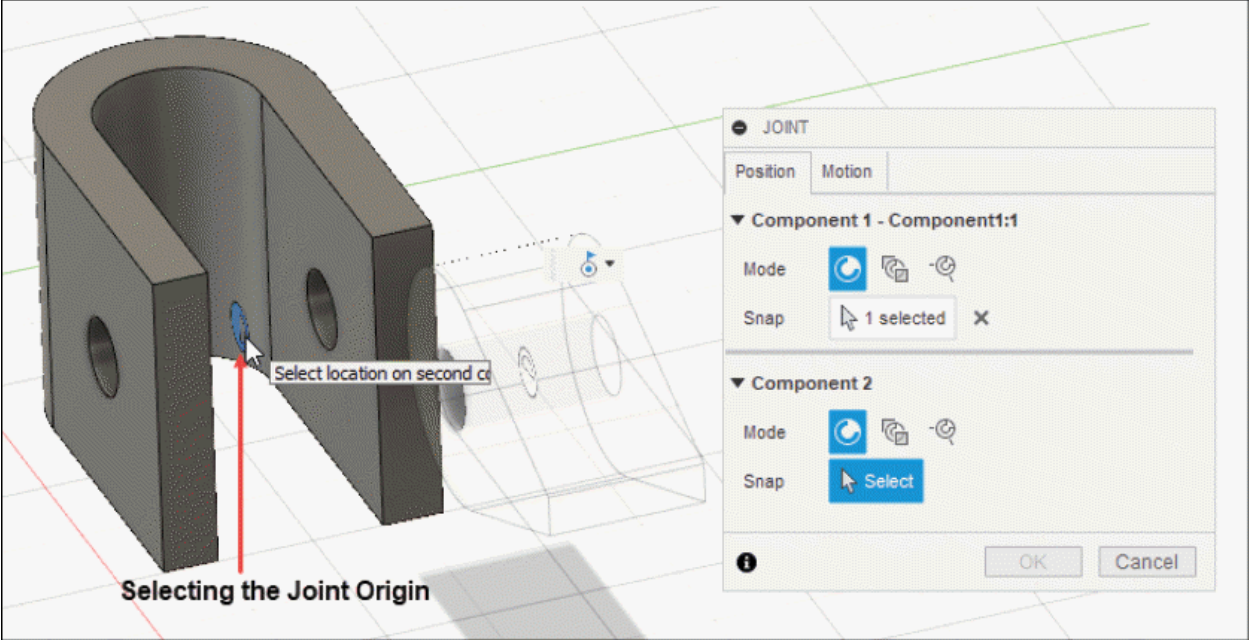
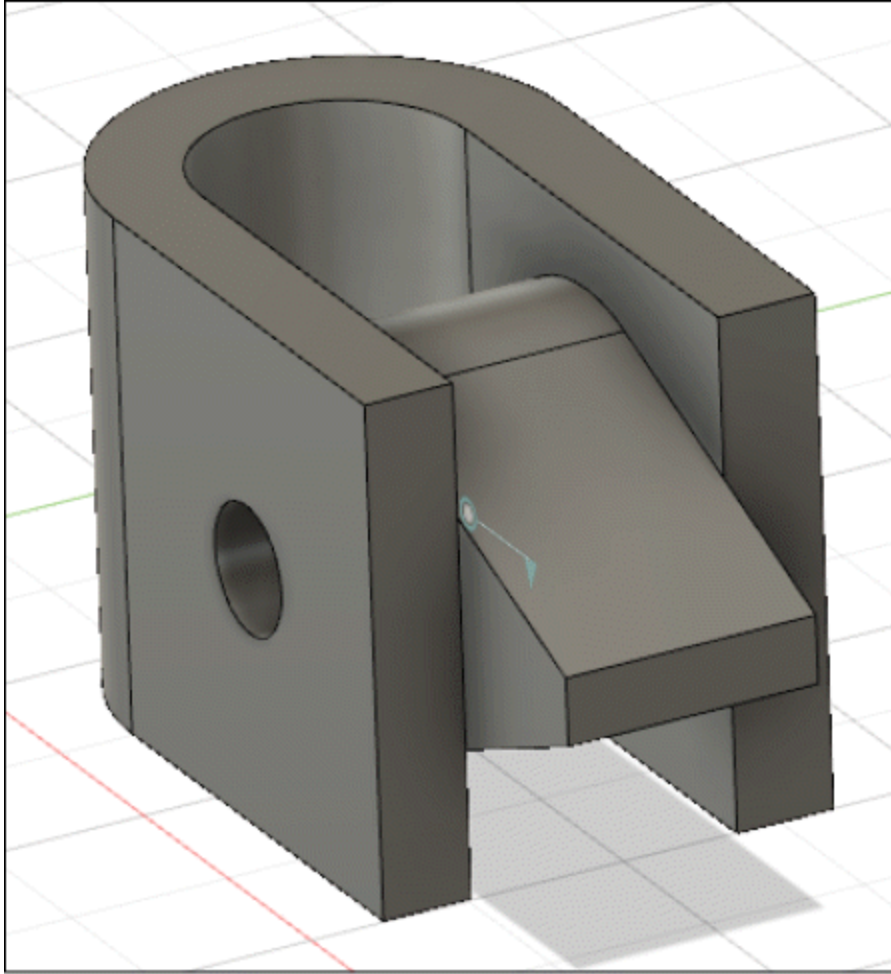

Figure-33. Selection of newly created joint origin
Figure-34. Joint created
- Now, you will be able to join the two component with the help of **Joint** tool using newly created joint origin; refer to Figure-33 and Figure-34.